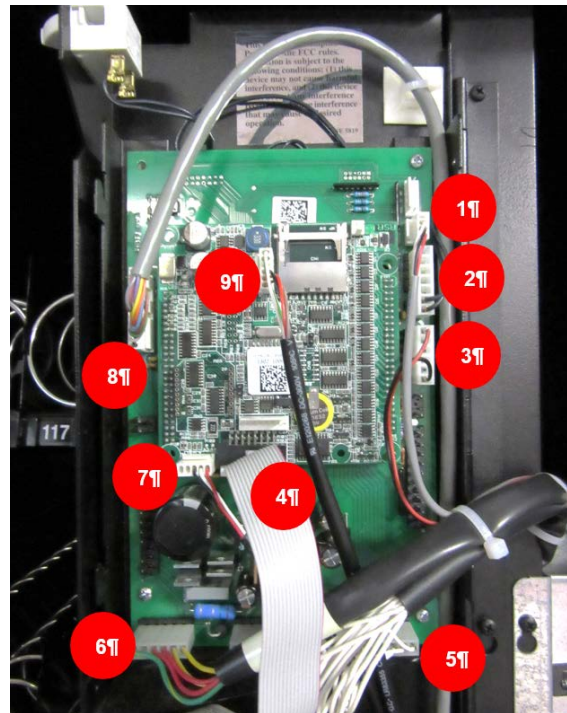

Figure 5
9. Verify that all harnesses are connected to the UCB as shown. See Figure 5.